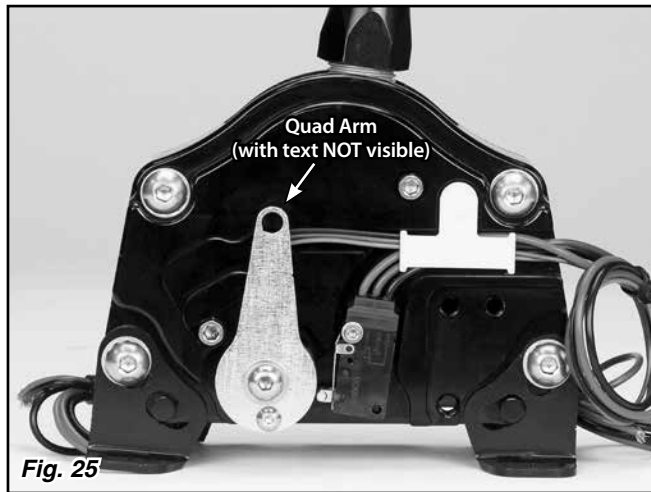

Fig. 25
- Step 9:** Reinstall the quad arm flipped over so the text on the quad arm is on the side towards the Shifter. Apply blue thread locking compound to the threads on both of the button head bolts that attach the quad arm to the Shifter, and install the bolts. **Fig. 25**